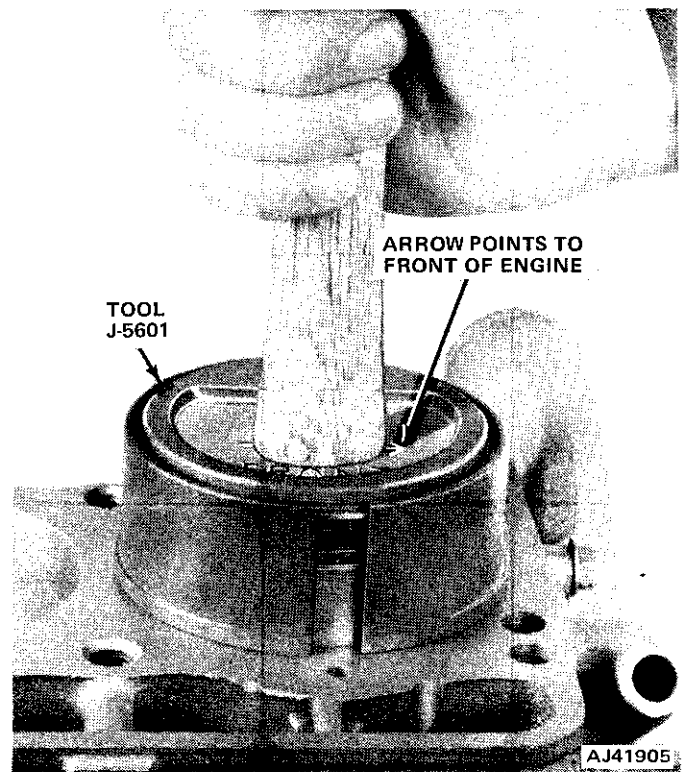

Fig. 1B-35 Piston Installation
- (1) Clean cylinder bores thoroughly. Apply light film of clean engine oil to bores with clean, lint-free cloth.
- (2) Install piston rings on pistons. Refer to Piston Rings for sequence.
- (3) Lubricate piston and rings with clean engine oil.
- (4) Use Piston Ring Compressor Tool J-5601 to install connecting rod and piston assemblies through top of cylinder bores (fig. 1B-35).
- (5) Install connecting rod bearing caps and inserts in same order as removed.
- (6) Install oil pan using replacement gaskets and seals. Tighten drain plug.
- (7) Install gasket and cylinder head.
- (8) Fill crankcase with clean oil to specified dipstick level.